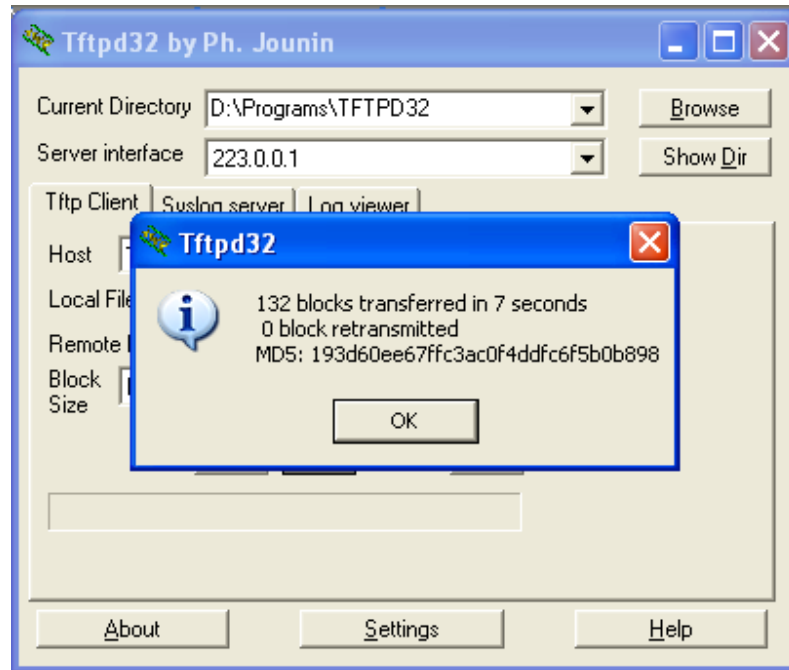

Figure 11 Tftpd32 utility, firmware transfer finish message window
- 3.1.8. After firmware file has been found, press “Put” button, it begin firmware upgrade process. If all sequence, that is described above, has been done successfully, after number of second delay you will see that yellow LED is blinking – this indicate that firmware upgrade process is running. After firmware process is finishing, yellow LED is switched off and data transfer finish message window is appearing (see **Figure.11**)